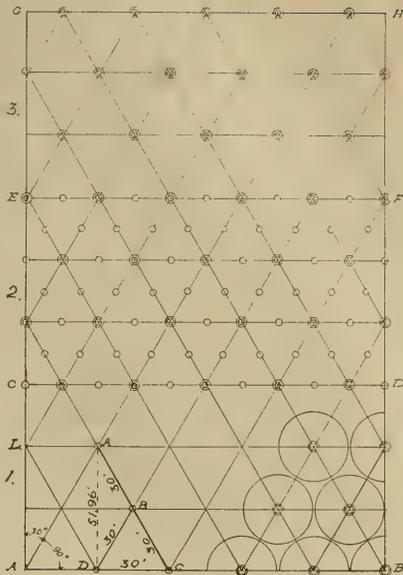

Fig. 74, Shows the Hexagonal System.
2. Fig. 74 shows the hexagonal system, using 30 feet as the distance that the trees are to be apart.